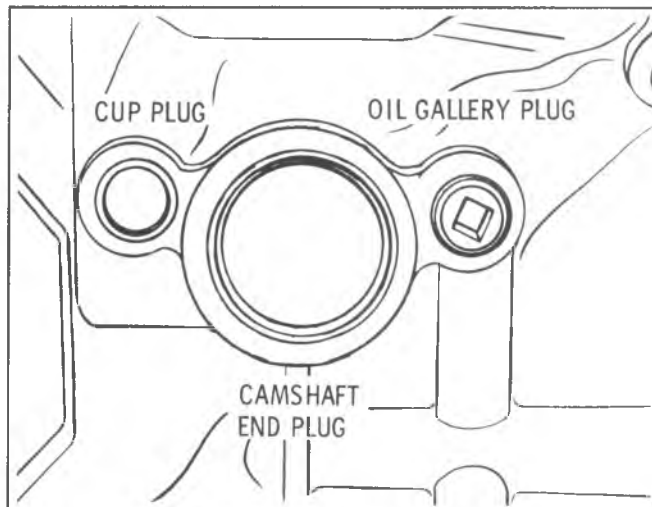

Fig. 6A6-90--Camshaft & Oil Gallery Plugs
7. Use a piece of 3/32" (2.4mm) brass rod with a 90° bend at the end to check all oil hole openings. Wire must enter hole or the bearing will not receive sufficient lubrication. (See Fig. 6A6-89).
Camshaft and Oil Gallery Plugs (Fig. 6A6-90)